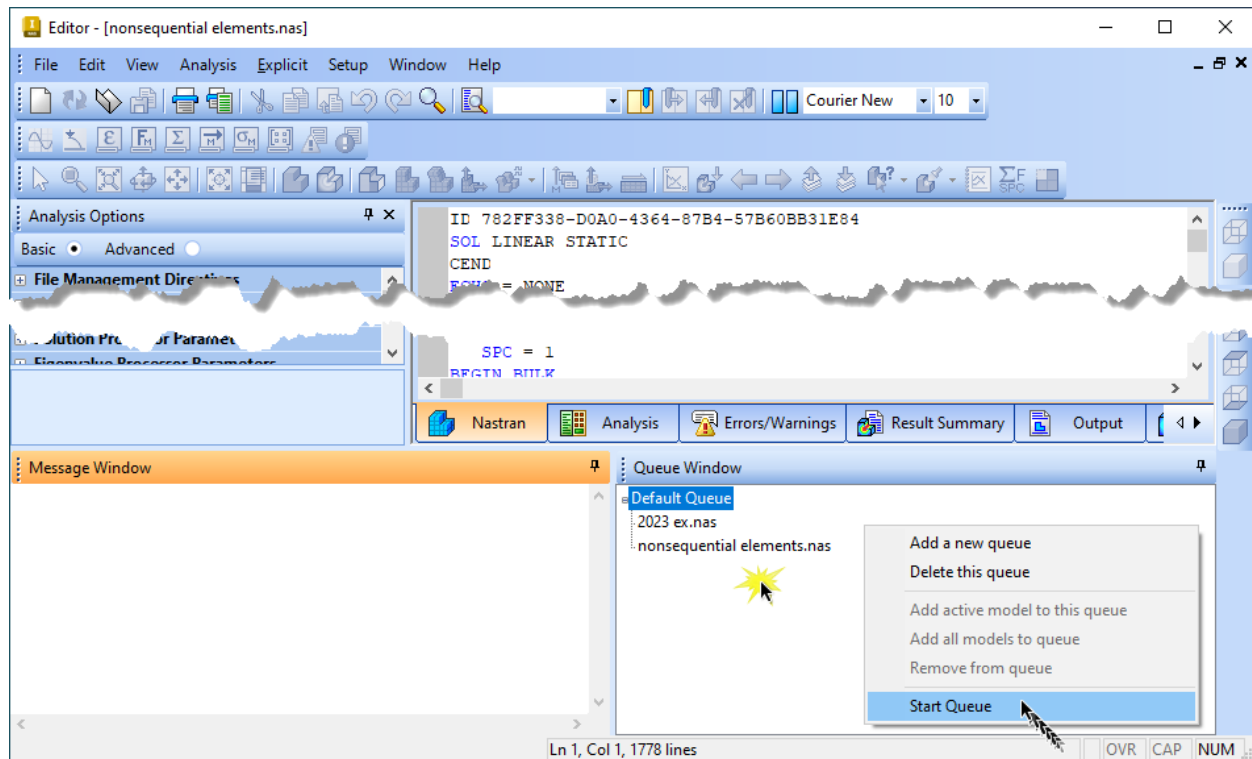

Figure 60 - Run multiple analyses from the Nastran Editor Utility.
4. In the Editor, use "File > Open" and select each Nastran file. Note that each file is added to the "Queue Window". See Figure 60.